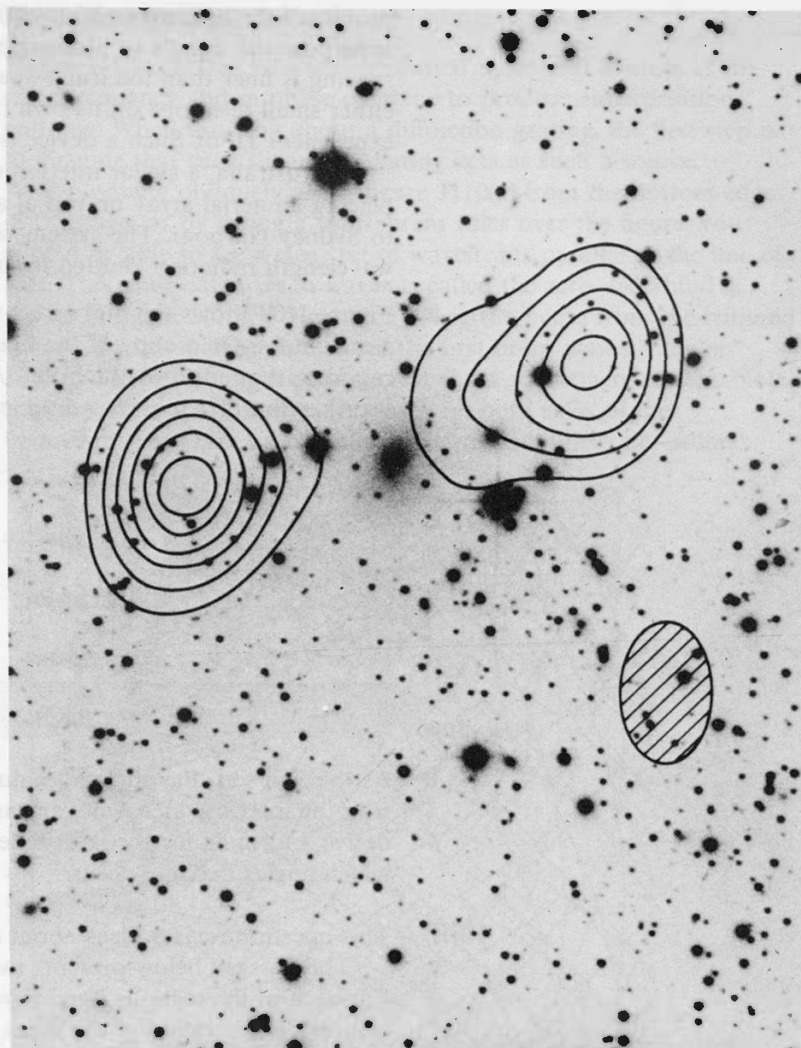

Figure J108
- 17(P)** Figure J108 illustrates the value of good resolving power in a radio telescope. The radio source Cygnus A seems to be located near the blurred object at the centre of the photograph, which may be an exploding galaxy. It is believed to be 5×10^{21} km (500 million light years) from the Earth.
- c** Estimate the diameter of the dish aerial (such as that in question 14) which would be needed to resolve sources as well as the telescope used to obtain the result in figure J108, at a wavelength of 0.15 m. Explain why a dish aerial was not used.